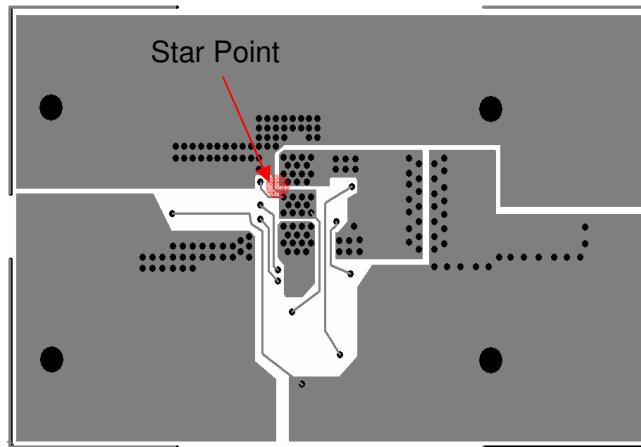

Figure 3 Common Connection point for PgnD and Gnd
- 4) P_{gnd} and G_{nd} should be kept as separate nets, with a single common connection (star), made by a short track from P_{gnd} to G_{nd} power pad under the device (Figure 3).